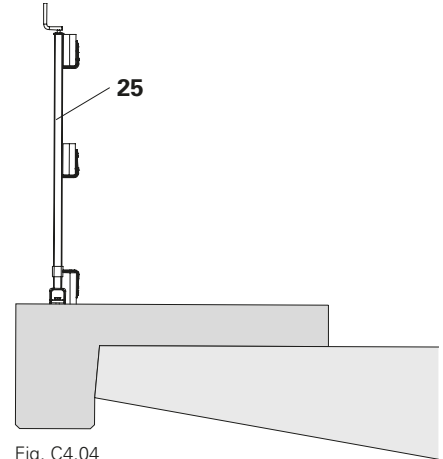
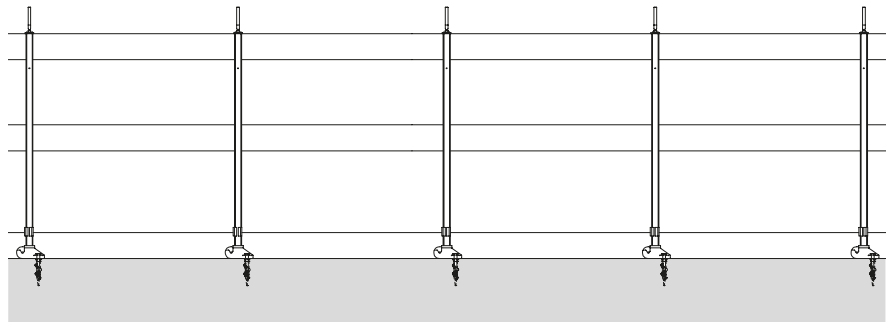

Fig. C4.04
Fig. C4.05
- Tighten Screw ISO 4017-M16x120-8.8 (**43**) together with Washer ISO 7094-16-100HV-ga. (**44**) and preload slightly. (Fig. C4.04 – Fig. C4.05)